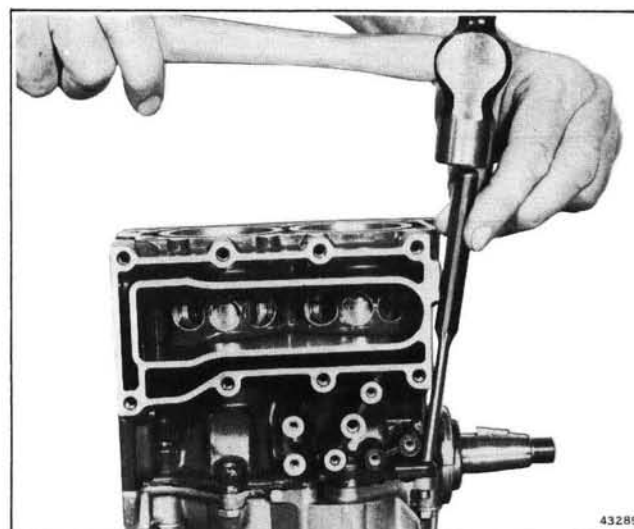

Figure 5-16. Driving Out Taper Pin
g. Drive out taper pin. See Figure 5-16.